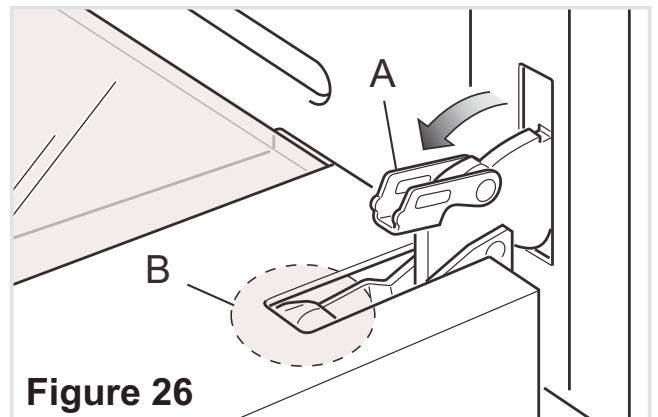

Figure 26
- Open the lever “A” completely on the left and right hinges (fig. 26).
- Gently close the door until left and right hinge levers “A” are hooked to part “B” of the door (figs. 26, 27).